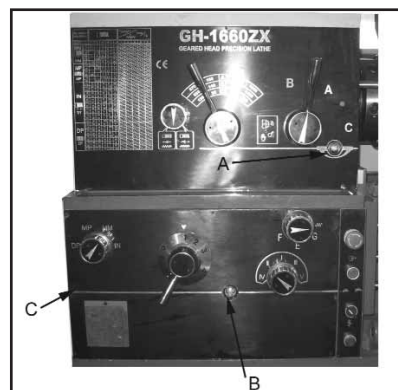

Fig. 4
1. **Headstock** - Oil must be up to indicator mark in oil sight glass (A, Fig. 4). Top off with Mobil DTE® Oil Heavy Medium. Fill by removing the plug on the top of the headstock. To drain, remove drain plug on the left side of the headstock at the lower rear corner. Drain oil completely and clean out all metal shavings. Refill after the first month of operation. Then change oil in the headstock every two months.
2. **Gearbox** - Oil must be up to indicator mark in oil sight glass (B, Fig. 4). Top off with Mobil DTE® Oil Heavy Medium. To add oil to the gearbox, remove two screws on the top cover. To drain, remove drain plug (C, Fig. 4) on the left side of the gearbox. Drain oil completely and refill after the first three months of operation. Then change oil in the gearbox every six months.